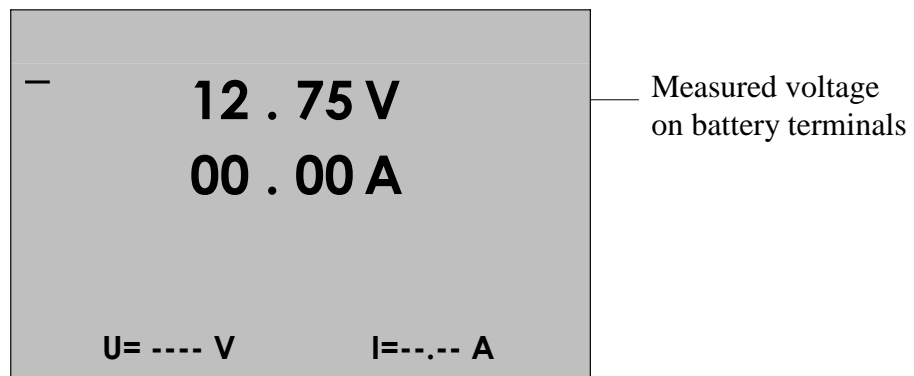

Figure 3.2
3.2.2 If the connection has been correctly established, battery voltage will be displayed (Figure 3.2)